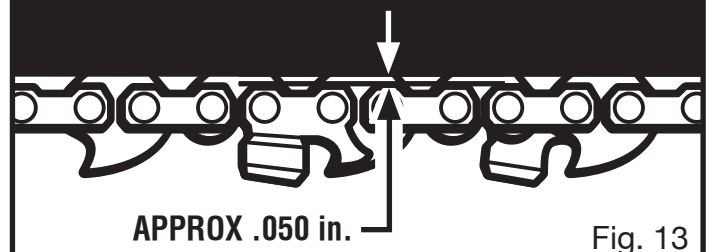

Fig. 13
- During normal operation, the temperature of the chain will increase. The drive links of a correctly tensioned warm chain will hang approximately .050 in. out of the bar groove, as shown in fig. 13.